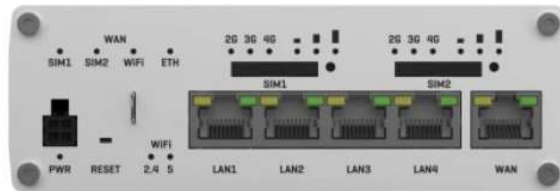

Figure 15: Similar Intercell Modem
- Insert termination plug to the last unused Modbus port. See details in Figure 15